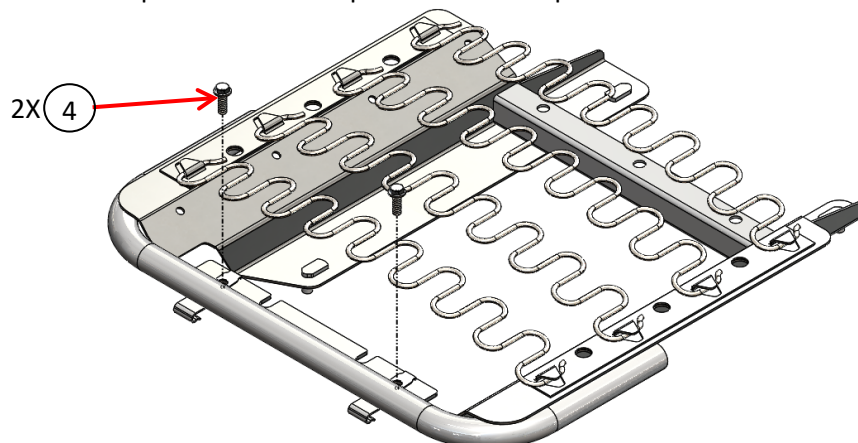

Figure 3
5. Use hardware from step 3 to attach components from step 4 to the front of the frame. See Figure 3.